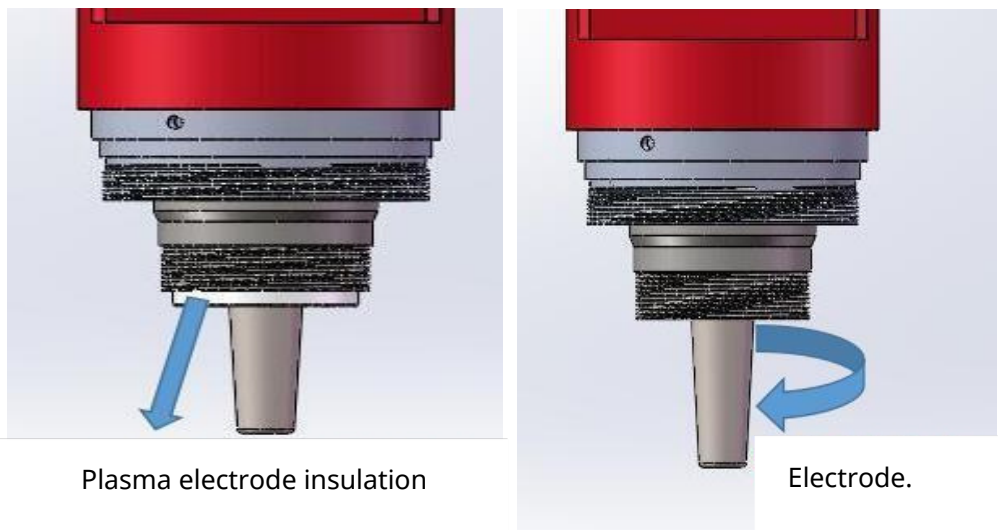

Figure 7-3 Plasma electrode insulation protective sleeve Figure 7-4 Plasma electrode
- (3) Remove the Plasma electrode insulation protective sleeve (high-voltage isolation tube), as shown in Figure 7-3;